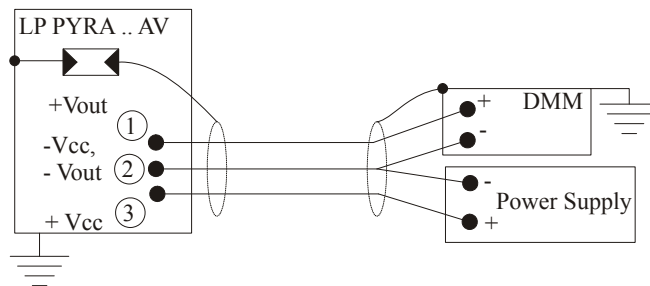

Fig. 9
- LP PHOT 02 AV is to be connected to a DMM and a power supply as show below (Figure 9). To read the signal, the load resistance must be $\geq 100k\Omega$